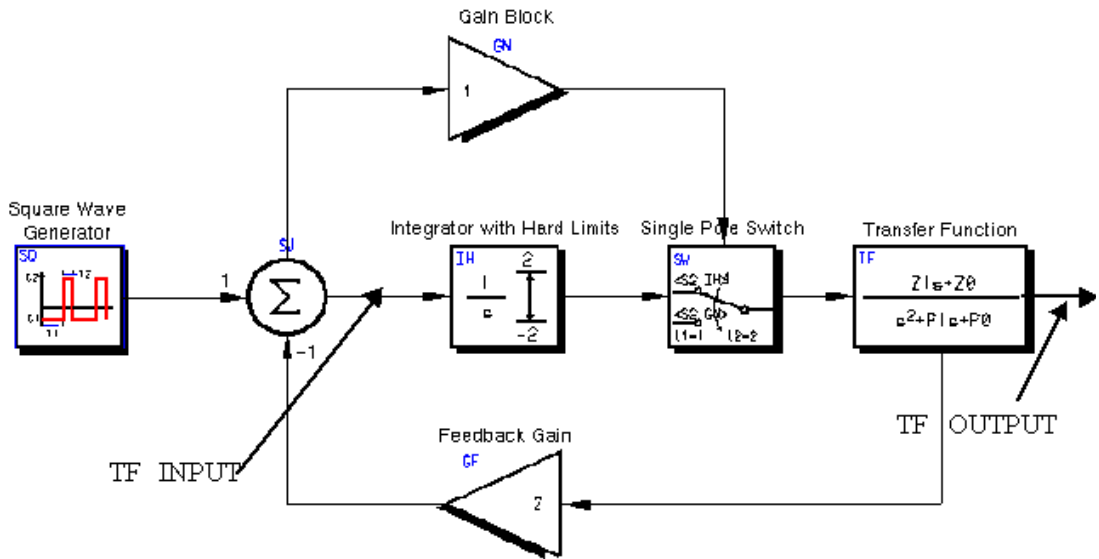

Figure 160 Example of a Broken Transfer Function Connection
An example of such a system is shown in Figure 160. Assume that the output of the Summing Junction component SJ is used as the TF INPUT, and the output of the Transfer Function component TF is the TF OUTPUT. Note that the transfer function loop contains the Integrator with Hard Limits component (IH) and the Switch component (SW), and that the IH component has hard limits at + 2.0.